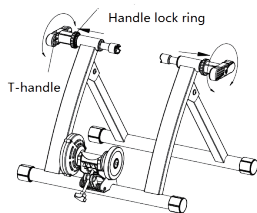

FIG.5
- 1.4** Push the handle lock ring to the outside, and then rotate counter-clockwise to leave the handle, as shown in Fig. 5.
- 2.2** Install the bike on the bike trainer, adjust the T-handle of the left knob to make the bike tire roughly in the middle of the roller. After fixing the bike, push the handle lock ring to the innermost side, as shown in Figure 5.